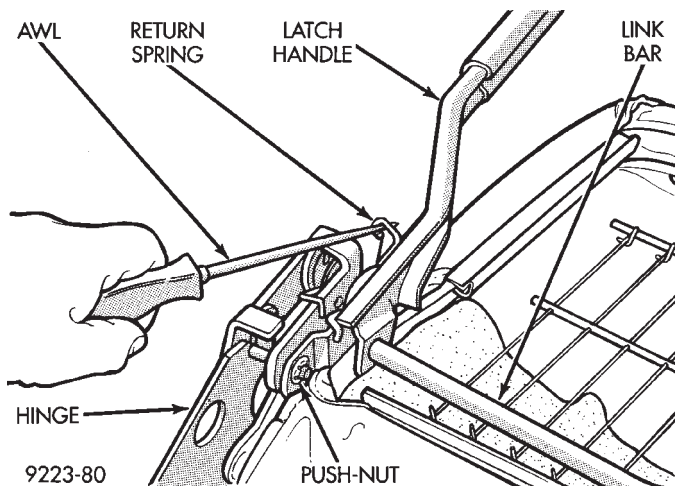

Fig. 39 Push-nut and Return Spring
- (1) Remove seat from vehicle.
- (2) Remove upper and lower seat back hinge covers.
- (3) Remove risers from seat cushion frame.
- (4) Remove push-nut holding latch handle to right seat back hinge (Fig. 39).
- (5) Disengage seat back latch return spring from right hinge (Fig. 39).
- (3) If removing right hinge, remove push-nut holding latch handle to right seat back hinge. Disengage seat back latch return spring from right hinge (Fig. 39).